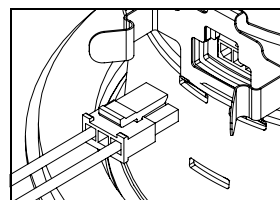

Figure 5
**Step 5.** Connect 3 position connector to fixture in orientation shown (Fig 5), and secure cover over connector.